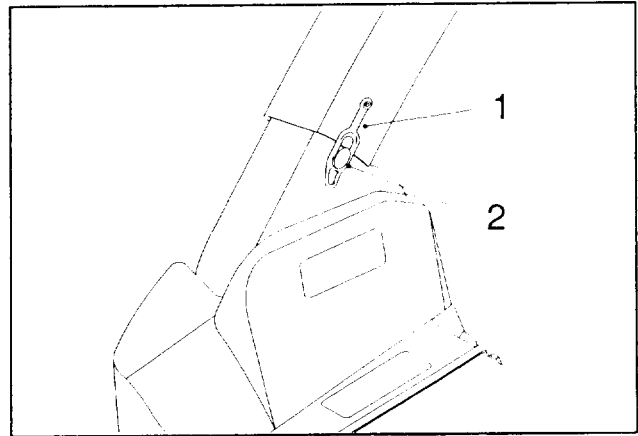

Figure 15
1. Insert the upper end of the discharge tube into the bagger top. Slide the lower end of the discharge tube over the blower discharge opening (Fig. 15).
2. Hook the rubber latch onto the blower knob (Fig. 15).